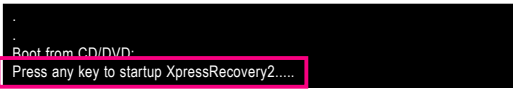

Figure 8
1. Boot from the motherboard driver disk to access Xpress Recovery2 for the first time. When you see the following message: *Press any key to startup Xpress Recovery2* (Figure 8), press any key to enter Xpress Recovery2.